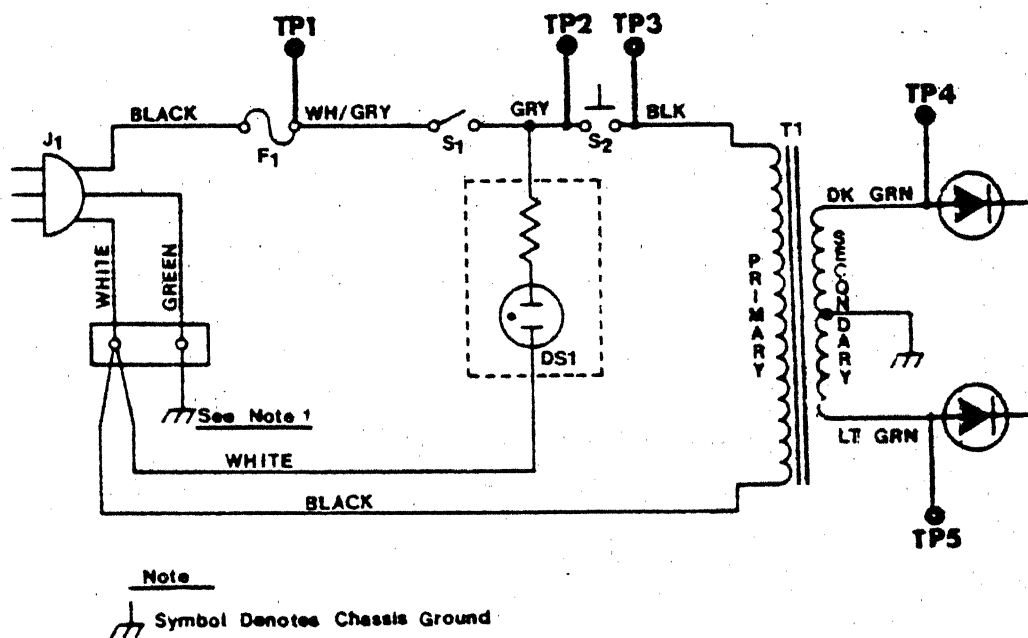

Figure 3. Schematic of Power Supply.
3. a. Locate TP1 on the lower left corner of the Power Supply chassis assembly plate. Place the tip of the oscilloscope probe on TP1. Refer to the schematic diagram (Figure 3) to see where the test points are connected in the Power Supply circuit. Plug in the Power Supply. Calculate and record the peak-to-peak voltage at TP1. TP1 measures \_\_\_\_\_ volts peak-to-peak.
4. On the schematic diagram in Figure 3, locate switch S2. When fuse F1 is installed and the power switch (S1) is turned on, there is an AC voltage present at this terminal. To measure the voltage at this point we would use TP2. Place the tip of the 10X probe in TP2, plug in the NIDA 201 Power Supply, and turn the power switch (S1) on
8. To answer questions 8a and 8b refer to Figure 3 (Schematic of Power Supply).